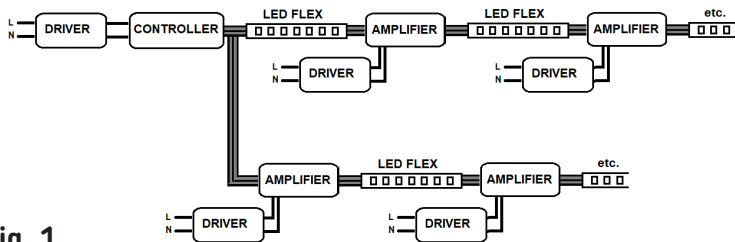

Fig. 1
- e) the overall length of LED flex required – long runs can cause volt drop, resulting in the light output being dimmer at the far end of the run. To prevent this, for installations of more than 10m in length consider splitting the installation into two or more shorter runs with separate power feeds, separate drivers, and signal amplifiers as required (see Fig. 1) – in this configuration the system can be extended, provided that each driver is sufficient for the load of the section of flex that is installed immediately after it